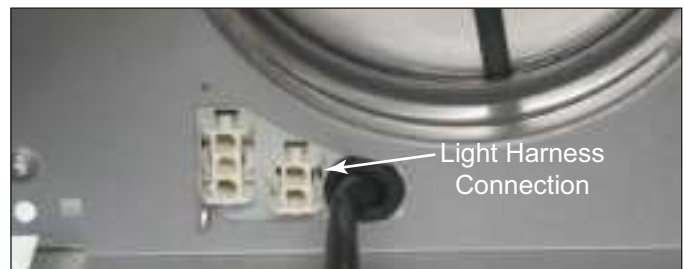

Figure 4-8. Lighting Connection in Easy Cube
- Disconnect two pin Lighting Harness from Easy Cube connection. (See Figure 4-8).